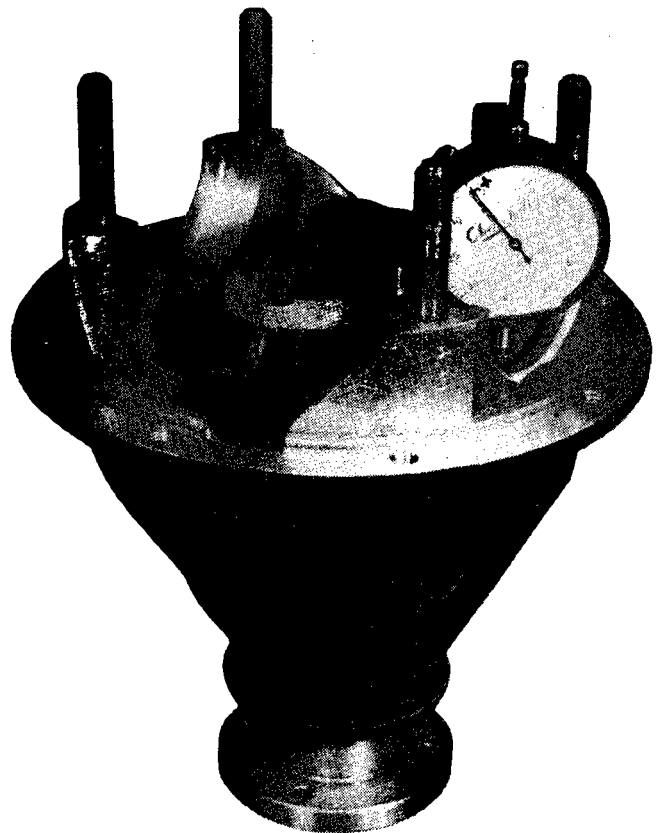

Fig. H.4
- (1) Fit the bearing outer races to the gear carrier, using the special pinion race replacing tool.
- (2) Smooth off the pinion head with an oil-stone, but do not erase any markings that may be etched on the pinion head.
- (3) Assemble the pinion and rear bearings with a washer of known thickness behind the pinion head.
- (4) Position the pinion in the gear carrier without the shims, bearing spacer, and oil seal.
- (5) Fit the inner ring of the front bearing and the universal joint driving flange and tighten the nut gradually until a bearing preload of 10 to 12 lb. in. (·12 to ·14 kg. m.) is obtained.
- (6) Remove the keep disc from the base of the magnet. Adjust the dial indicator to zero on the machined step 'B' of the setting block.
- (7) Clean the pinion head and place the magnet and dial indicator in position (Fig. H.4). Move the indicator arm until the foot of the gauge rests on the centre of the differential bearing bore at one side and tighten the knurled locking screw. Obtain the maximum depth reading and note any variation from the zero setting. Repeat the check in the opposite bearing bore. Add the two variations together and divide by two to obtain a mean reading.
- (8) Take into consideration any variation in pinion head thickness. This will be shown as an unbracketed figure etched on the pinion head and will always be minus (—). If no unbracketed figure is shown the pinion head is of nominal thickness. Using the mean clock gauge reading obtained and the unbracketed pinion head figure (if any), the following calculation can be made: